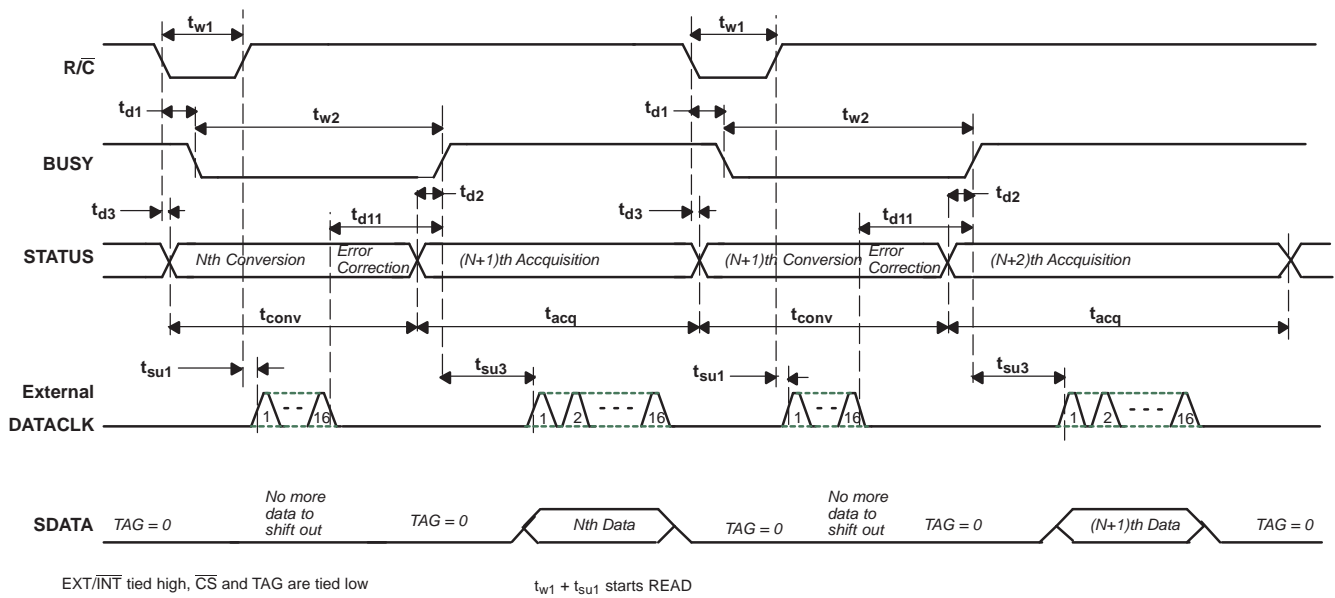
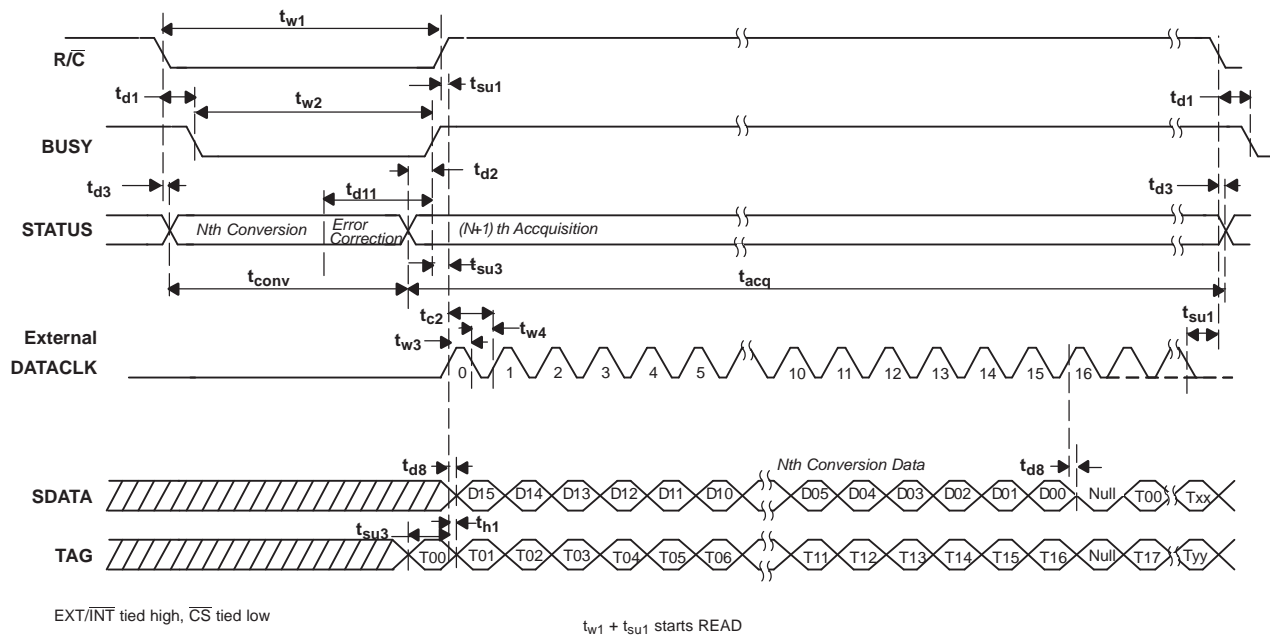
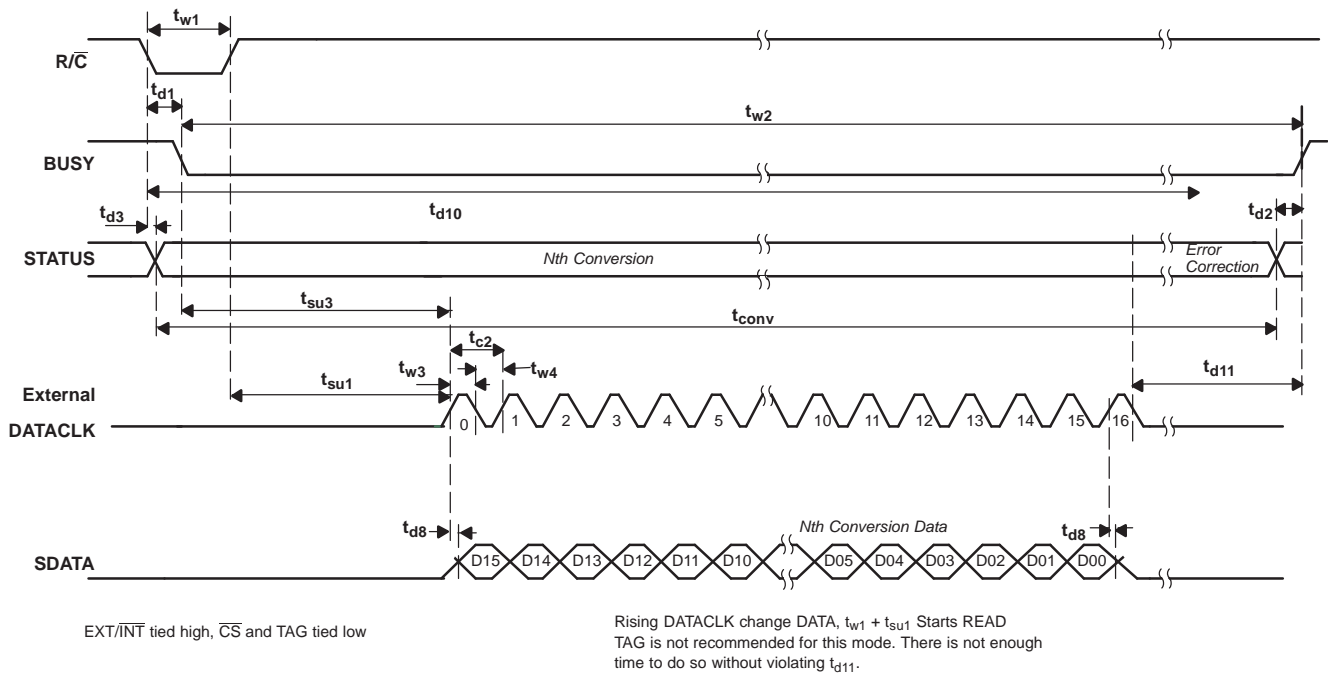

Figure 37. Basic Conversion Timing - External DATACLK
Figure 38. Read After Conversion (Discontinuous External DATACLK)
Figure 39. Read During Conversion (Discontinuous External DATACLK)
(1) See Figure 37, Figure 38, and Figure 39 for constraints on data valid from conversion $N-1$.
After conversion N is completed and the output registers have been updated, $\overline{\text{BUSY}}$ (pin 24) goes high. With $\overline{\text{CS}}$ low and R/ $\overline{\text{C}}$ high, valid data from conversion N is output on SDATA (pin 19) synchronized to the external data clock input on DATACLK (pin 18). The MSB is valid on the first falling edge and the second rising edge of the external data clock. The LSB is valid on the 16th falling edge and 17th rising edge of the data clock. TAG (pin 20) inputs a bit of data for every external clock pulse. The first bit input on TAG is valid on SDATA on the 17th falling edge and the 18th rising edge of DATACLK; the second input bit is valid on the 18th falling edge and the 19th rising edge, etc. With a continuous data clock, TAG data is output on SDATA until the internal output registers are updated with the results from the next conversion. Refer to Table 6 and Figure 38.
After conversion N has been initiated, valid data from conversion $N-1$ can be read and is valid up to 12 μs after the start of conversion N . Do not attempt to clock out data from 12 μs after the start of conversion N until $\overline{\text{BUSY}}$ (pin 24) rises; this results in data loss. NOTE: For the best possible performance when using an external data clock, data should not be clocked out during a conversion. The switching noise of the asynchronous data clock can cause digital feedthrough degrading the converter's performance. Refer to Table 6 and Figure 39.